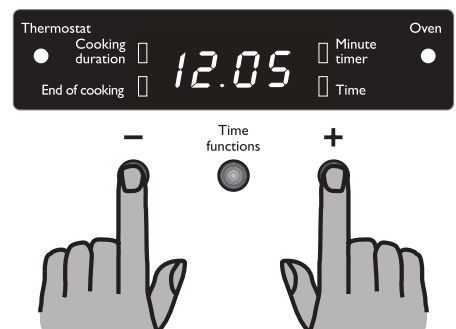

Fig. 8
1. Press two or three programmer push buttons simultaneously and keep them pressed for about 5 seconds (Fig. 8). The display will switch off.